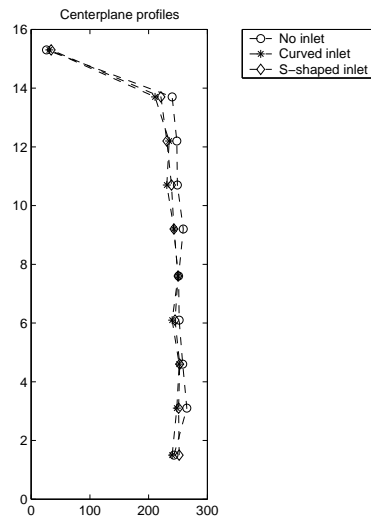

Figure 6: Comparison of velocity profiles on the center plane of the three wind tunnels for $V_{\text{nom}} = 250$ ft/min.
3. Create a plot to compare the centerline velocity profiles for the different inlets. The result should be similar to Figure 6.